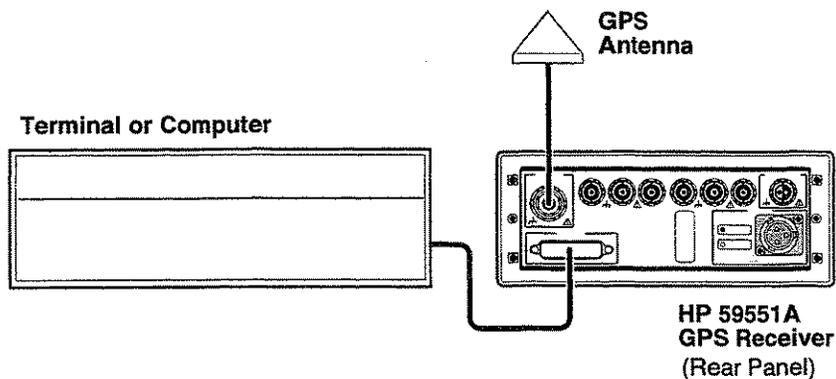

Figure 4. HP 59551A Time Tagging Operational Verification Setup
- 1 Connect a GPS Antenna and cable to the HP 59551A and allow the Receiver to indicate it is in "GPS Lock" mode as indicated by the illuminated **GPS Lock** indicator. Until GPS lock is attained, the following tests will not be valid. Your test setup should be similar to Figure 4.